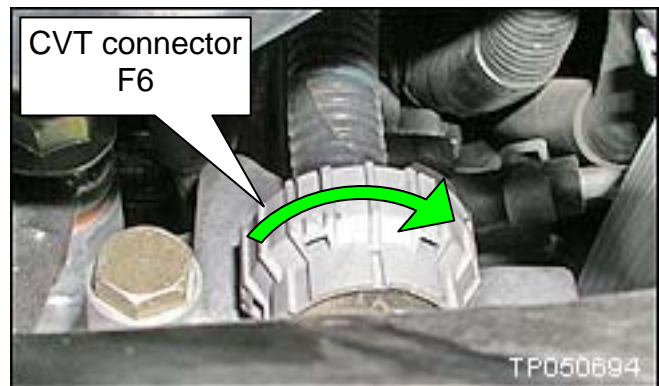

Figure 1
8. Disconnect CVT harness connector F6 by turning it in the direction shown in Figure 1.